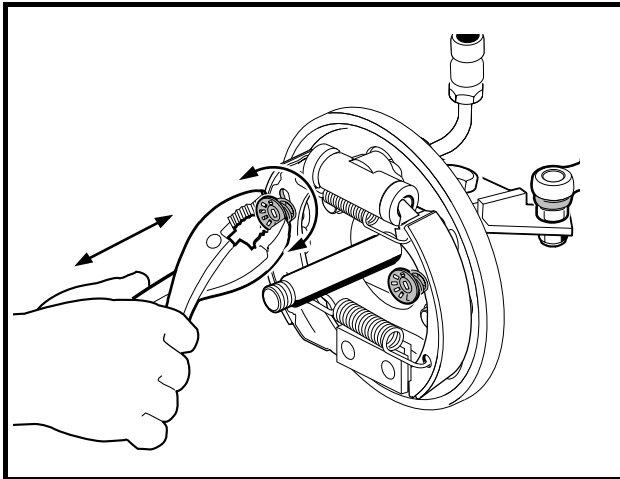

Figure 6-4 Rotate Front Spring Cups
2. Use pliers or a brake tool to rotate the cup washer and compression spring assembly 90° and remove the cup and spring from each brake shoe (**Figure 6-4, Page 6-9**). **See following NOTE.**